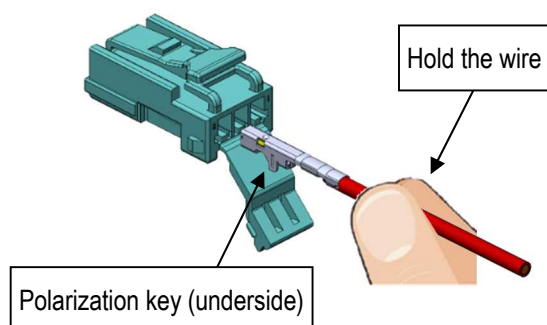

Fig 25. Terminal insertion direction: 1 ROW
- ① Ensure that the terminal is crimped correctly and there is no damage, deform or dirt present.
- ② Hold the wire to insert the female terminal as shown in Fig.25 and 26.
- ③ Insert the terminal into the corresponding corehole of the housing, as deeply as possible, in the orientation as shown in Fig. 25 and 26.
- ④ Once the female terminal is inserted, ensure that the female terminal retention is fastened by pulling the wire lightly towards you.